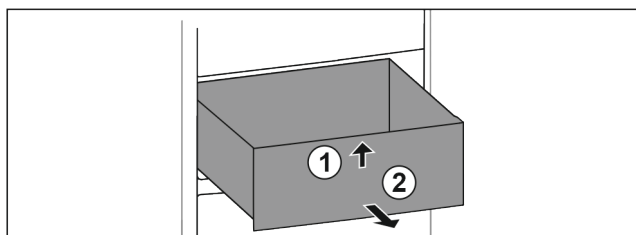

Fig. 17
- Lift at the front Fig. 17 (1).
- Take out to the front Fig. 17 (2).